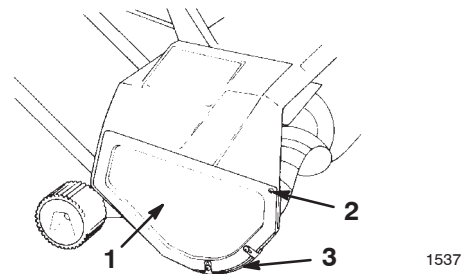

Figure 13
1. Remove the 3 screws that secure the right side cover and the skid to the snowthrower frame (Fig. 13).